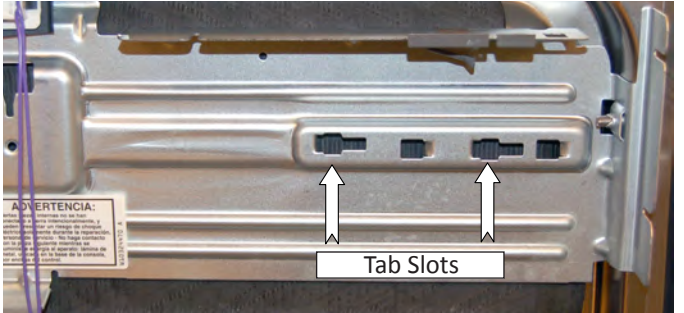

Figure 5 - Control Tab Slots
5. There are two tabs on the back of the control that hook into the slots in the door bracket. See Figure 5.